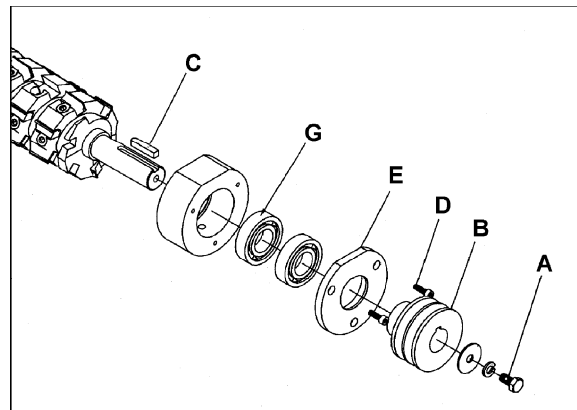

Figure 33
7. Loosen hex cap screw (A, Figure 33) and remove pulley (B, Figure 33) and key (C, Figure 33).
8. Loosen screws (D, Figure 33) on both sides and remove bearing cap plates (E, Figure 33).
NOTE: Figure 33 shows the pulley end of the cutterhead. The procedure is similar for breaking down the opposite end of the cutterhead - refer to assembly drawing on page 39 for the specific parts.
**IMPORTANT:** If the bearings (G, Figure 33) need replacement, it is strongly recommended this be done by qualified service personnel. The bearings are press fitted and must be removed with an arbor press.